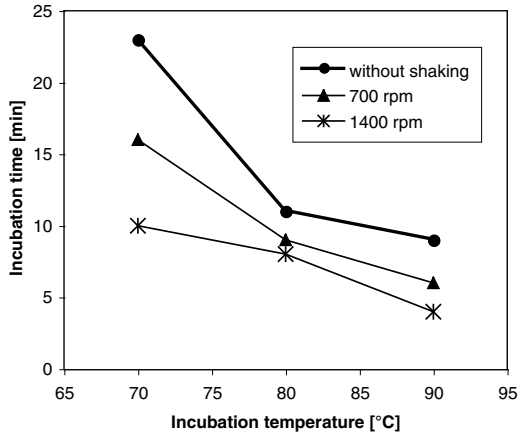

Figure 2: Removal of residual ethanol from the elution fraction by heat treatment.
- d) The incubation of the eluate at higher temperatures may be adjusted according to Figure 2. The incubation times and conditions shown will reduce an elution volume of 20 μL to about 12–14 μL and will effectively remove traces of ethanol as described above.